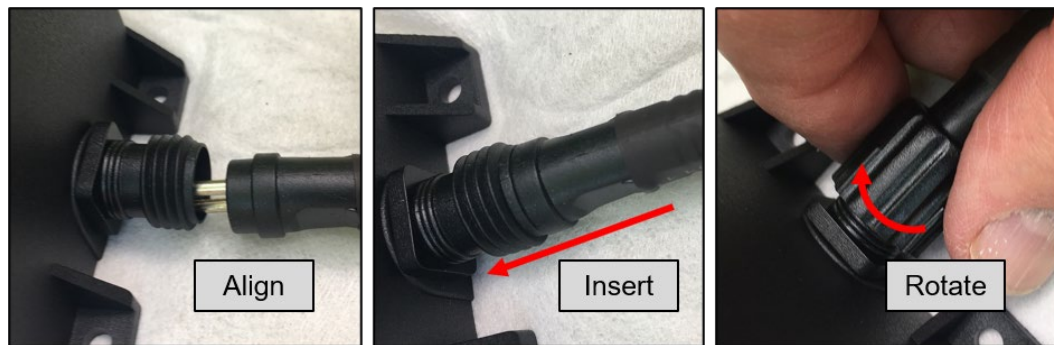

Figure 14 Connect Power Supply
- a. Align the burner unit plug with the power supply holes (Figure 14 left)
- b. Insert the plug until it is fully seated (Figure 14 center)